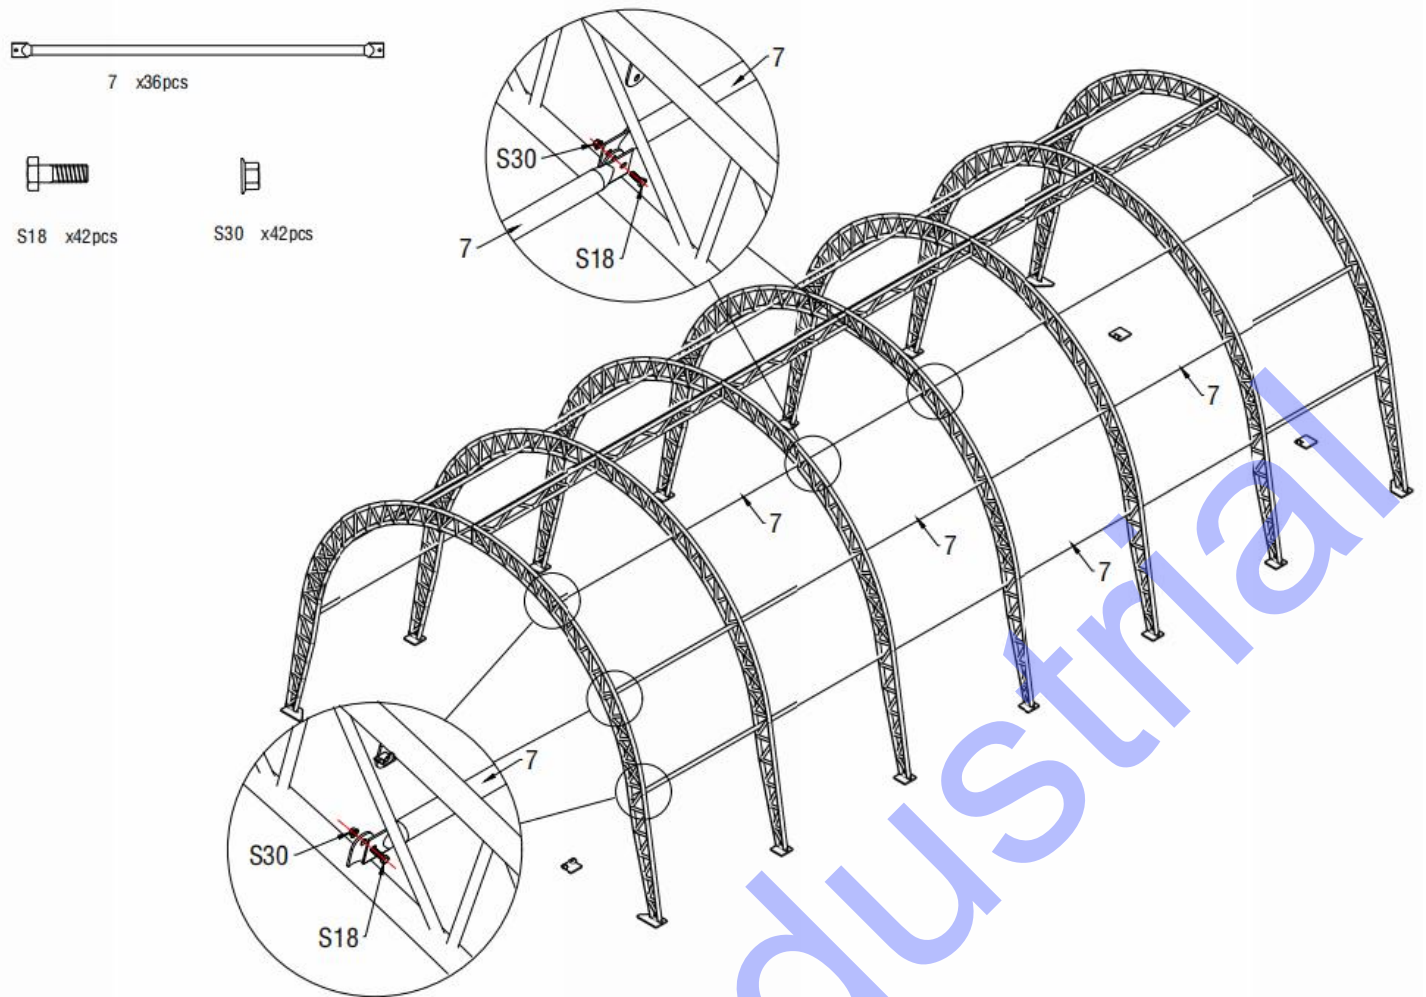

Figure 8
4. Above Figure 7 shown when finish installing all the arches into the base plates, use Double Trussed Purlins (No.6) to connect them by Screw M10x30 (No.S18) . Then use Purlins(No.7) to connect the arches by Screw M10X30 (No.S18). In this turn, fix all other purlins. Finished stretch frame as below(Figure 8)